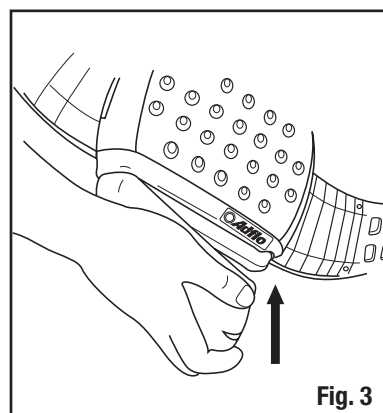

Fig. 3
2. Hook the left edge of the battery pack into its holder on the bottom of the unit and press the battery pack into the motor/blower until the catch fully engages **with two audible clicks** (Fig. 3).